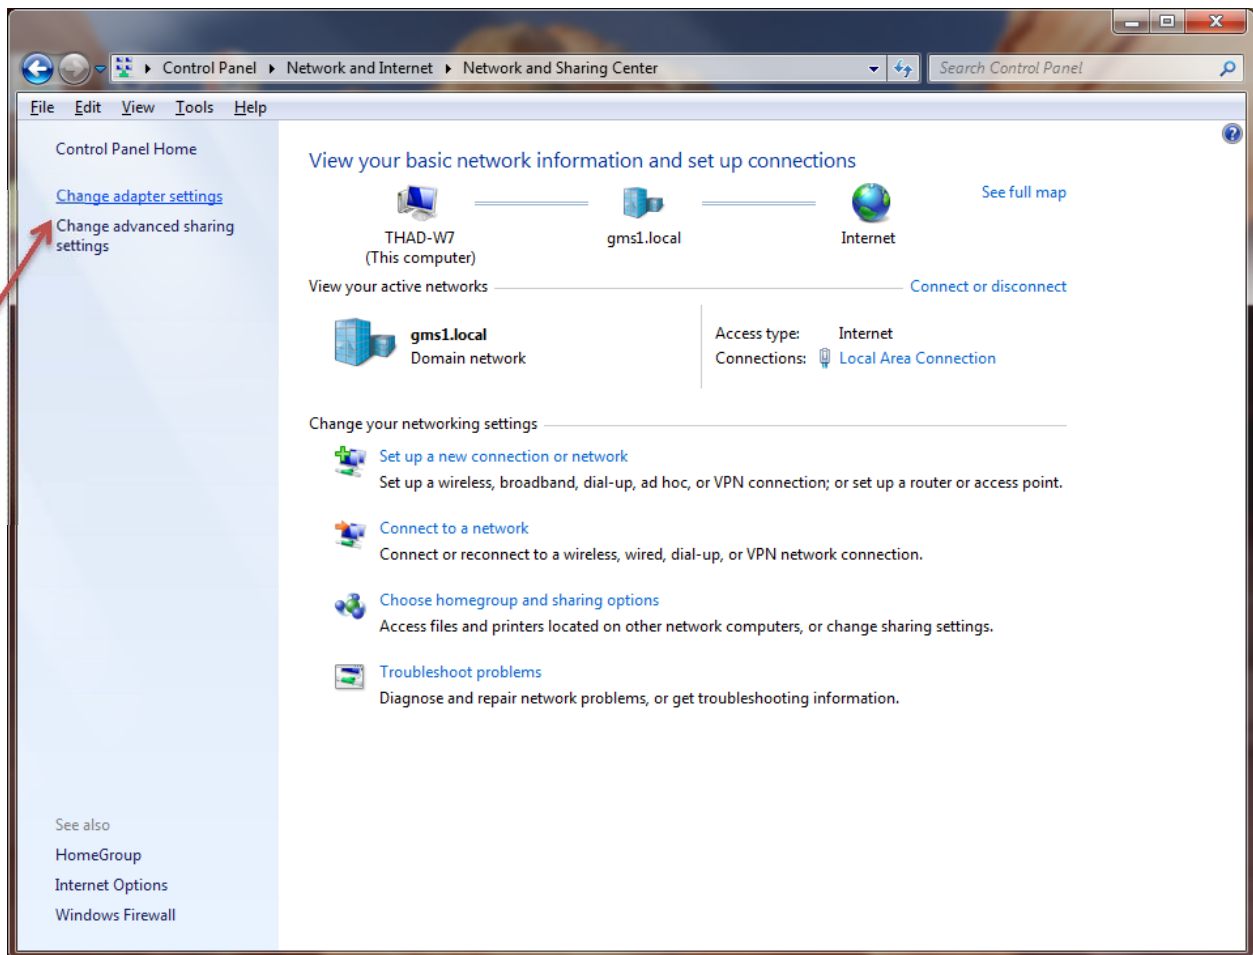

Figure 37 - Network Center
- Click on the “Change adapter settings” on the left side of the screen as shown in Figure 37.